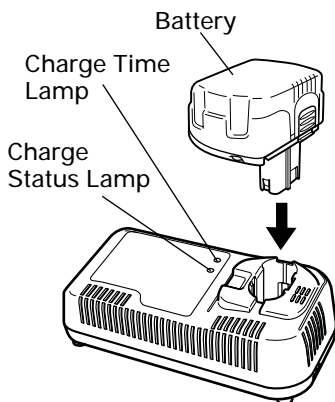

Fig. 7
2. Insert the battery to the battery charger. Insert the battery into the battery charger as shown in Fig. 7. Make sure it contacts the bottom of the battery charger.